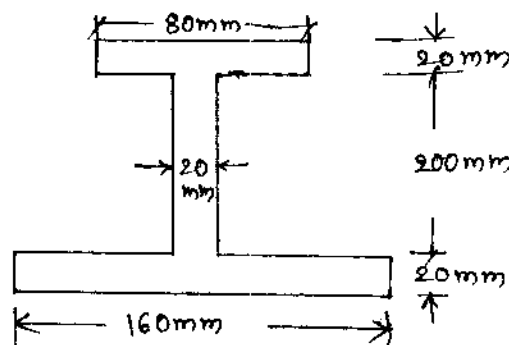

Fig. Q8(b)
- b. The unsymmetrical I – section shown in Fig. Q8(b) is subjected to a shear force of 40 kN. Draw the shear stress variation diagram across the depth. (12 Marks)